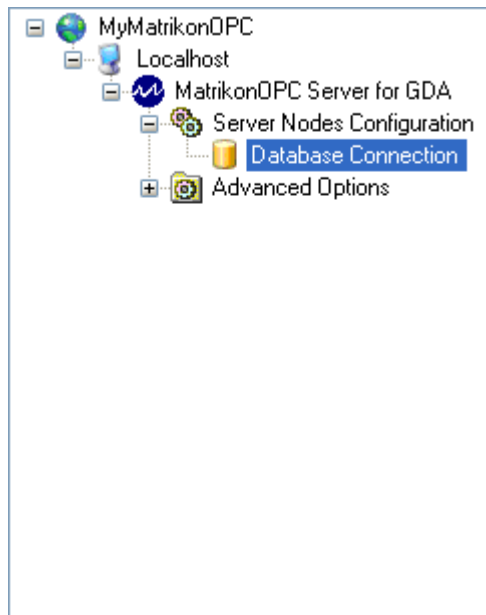

Figure 5 - New Database Connection Node
- Click on the **Create** button. The new item is created and appears as a child of the **Server Nodes Configuration** node in the navigation pane as shown in Figure 5.